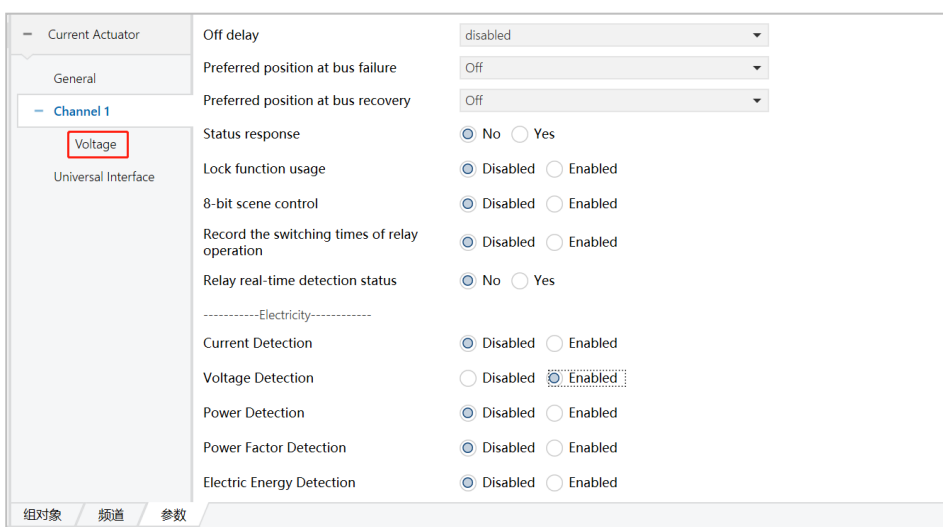

Figure 6.2.3
(1) The parameter "voltage detection" means voltage detection, when you select "Enabled", the interface will appear as shown in Fig. 6.2.3, and the options in the red box will appear as shown in Fig. 6.2.3.